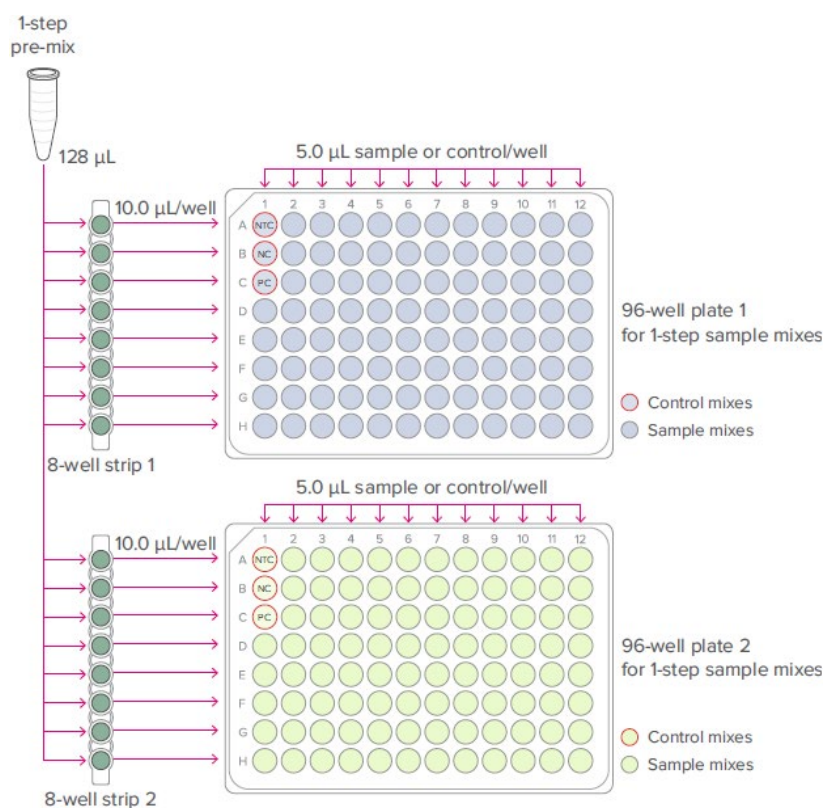

Figure 1. 1-step reaction plates (per-well transfer volumes)
- 5 Using an 8-channel pipette, combine the 1-step pre-mix and the samples or controls in 2 new 96-well plates as shown in Figure 1.
- b Next, add 5.0 µL of each control into wells A1 (NTC), B1 (NC), and C1 (PC) of each plate.